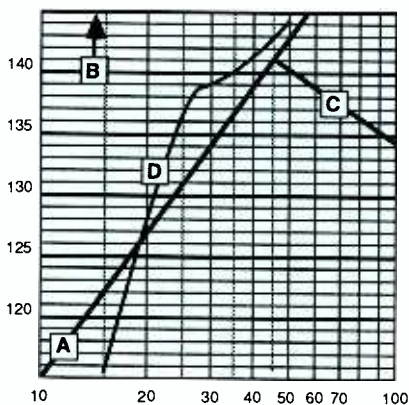

Figure 7. Plotting performance limits.
In Figure 7, the 12dB/octave line (A) drawn through 40Hz at 139dB defines the maximum, displacement-limited, 1-meter equivalent SPL for closed-box (C-2) alignments. At 200Hz, if each transducer has a sensitivity of 91dB, 1W, 1 meter, this